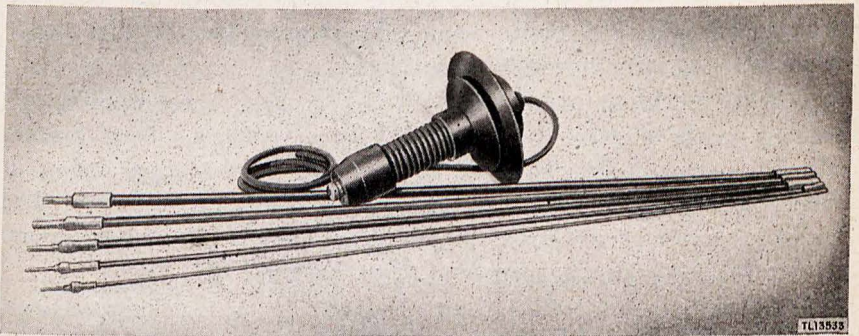

Figure 10. Mast Base MP-57 and Mast Sections MS-49, MS-50, MS-51, MS-52, and MS-53.
g. MAST SECTIONS MS-49 TO MS-53 (fig. 10). These flexible steel sections fasten together to form a $15\frac{1}{2}$ -foot antenna. Mast Section MS-49 is the top section of the antenna; the other sections follow in numerical sequence down to the mast base (MS-49, MS-50, etc.). The ends of the various sections to be joined are painted in matching colors. These mast sections are used with Mast Base MP-57.